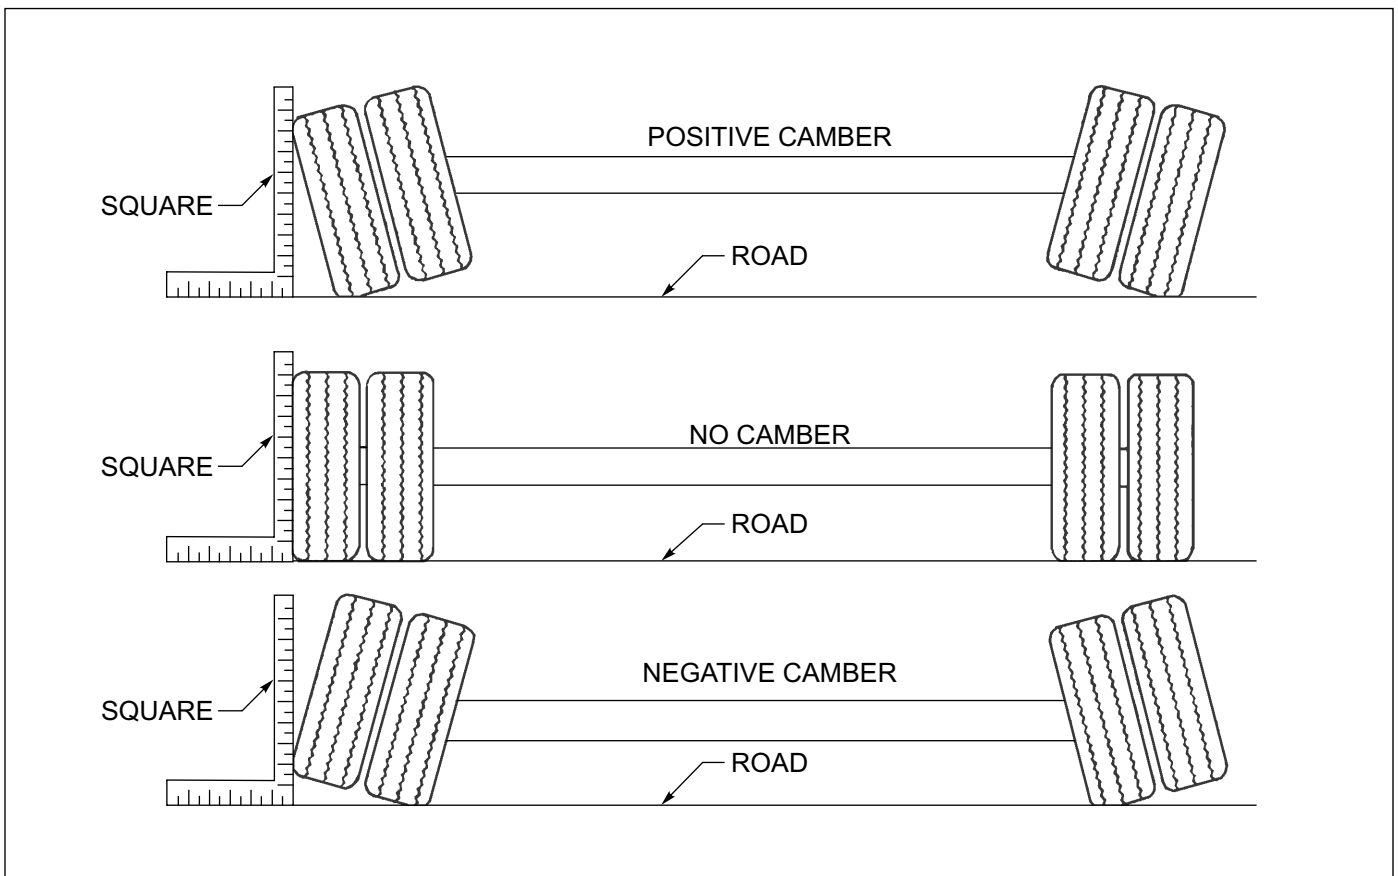

Figure 4-9: Examples of Camber
4. Follow the same procedures as in steps 2 and 3, except place the axle gauge above and below the axle. If gauge point gap is found, the axle has positive or negative camber. The trailer axle has no camber from the factory. If it is found to have positive or negative camber, axle replacement is necessary. See Figure 4-9 for examples of camber.